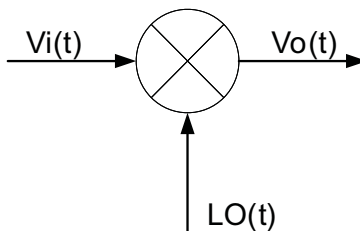

Figure 83. Block Diagram of Mixer Operation
The CW mixer in the AFE5809 is passive and switch based; passive mixer adds less noise than active mixers. It achieves good performance at low power. Figure 83 and the equations describe the principles of mixer operation, where $V_i(t)$, $V_o(t)$ and $LO(t)$ are input, output and local oscillator (LO) signals for a mixer respectively. The $LO(t)$ is square-wave based and includes odd harmonic components as shown in Equation 9: